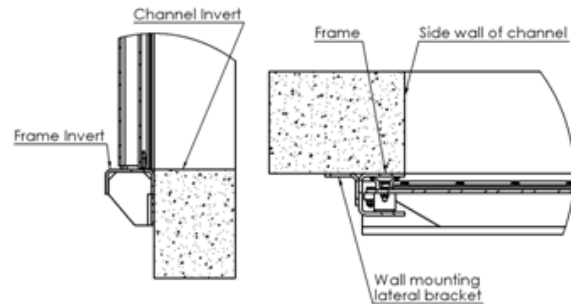

Figure 12
- Present the unit to its required position and ensure that the invert of the frame is flush with the civils. Also make sure that the equipment is centered with respect to the channel opening (See Figure 12)